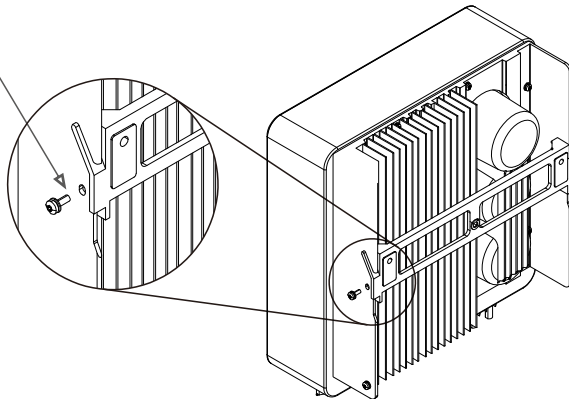

Figure 4.5 Wall Mount Bracket
Please see Figure 4.4 and Figure 4.5 for instruction on mounting the inverter..
4. Lift up the inverter (be careful to avoid body strain), and align the back bracket on the inverter with the convex section of the mounting bracket. Hang the inverter on the mounting bracket and make sure the inverter is secure (see Figure 4.5).